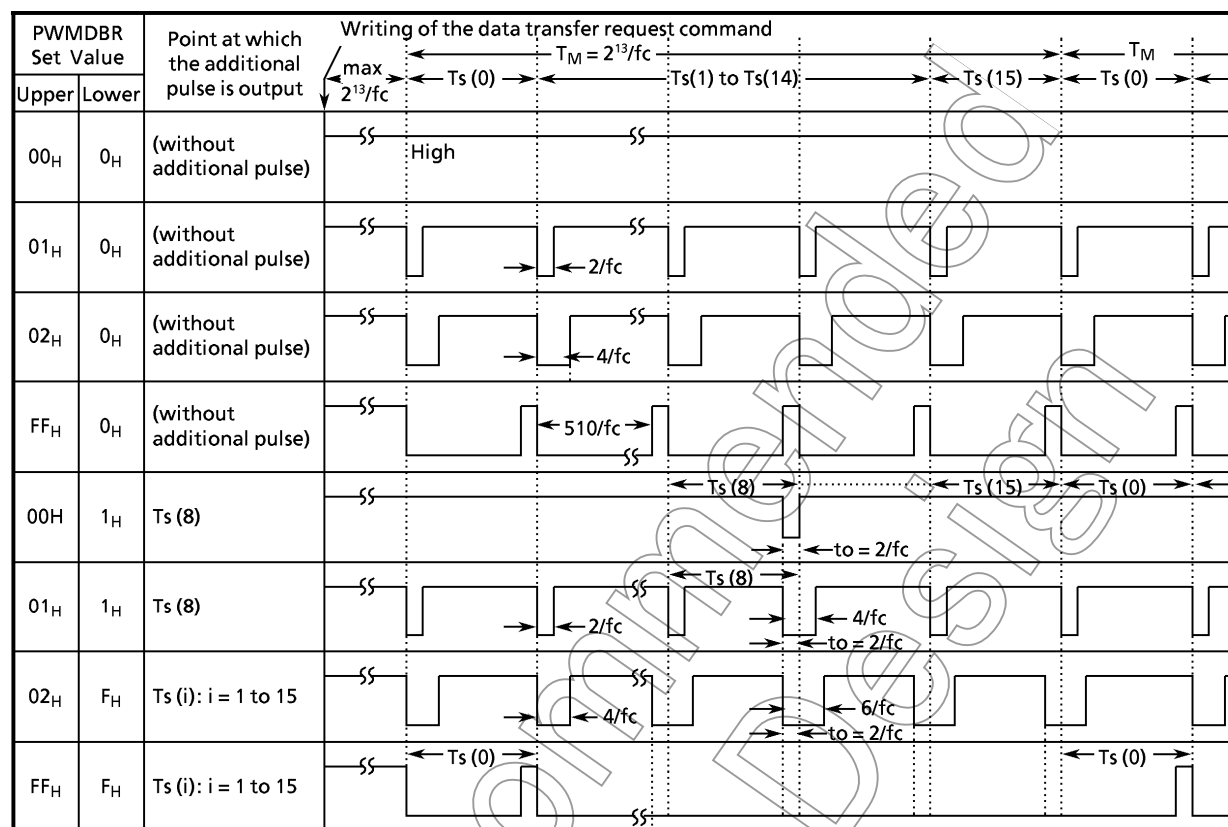

Figure 2-68 (3). PWM Output Pulse
(6) PWM output pulse stop
To output always "H" after  $T_M$  period ( $T_s(0)$  to  $T_s(15)$ ) of the PWM pulse which is being written is completed, "00H" must be written to the lower and the upper of PWMDBR according to the procedures mentioned in figure 2-68 (2) and the data transfer request command must be written. Note that the maximum time from the point at which "00H" is written until PWM pulse is always output by "H" is  $2^{13}/f_c$ .
(7) PWM output pulse abort ("H" is always output.)